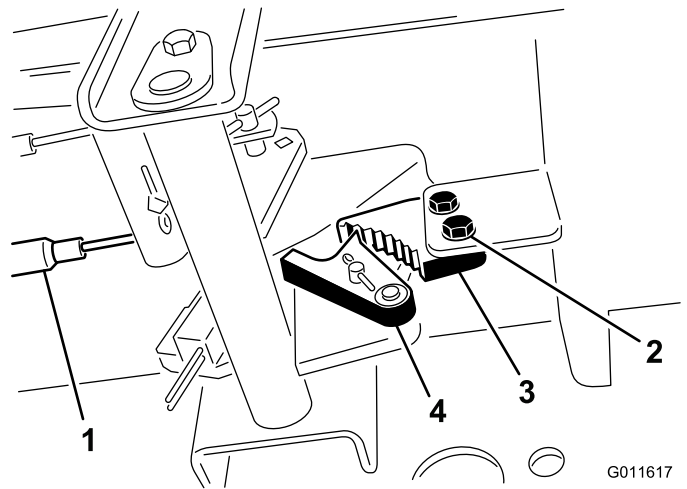

Figure 36
1. Loosen the 2 screws securing the parking brake pawl to the frame (Figure 36).
2. Press the parking brake pedal forward until the brake detent completely engages on the brake pawl (Figure 36).